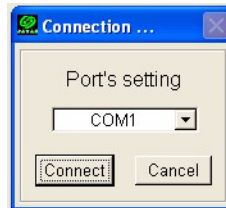

Figure 2-33. Connection to Modem-JNS
4. Open Modem-JNS and select the COM port the receiver is connected to (Figure 2-33).